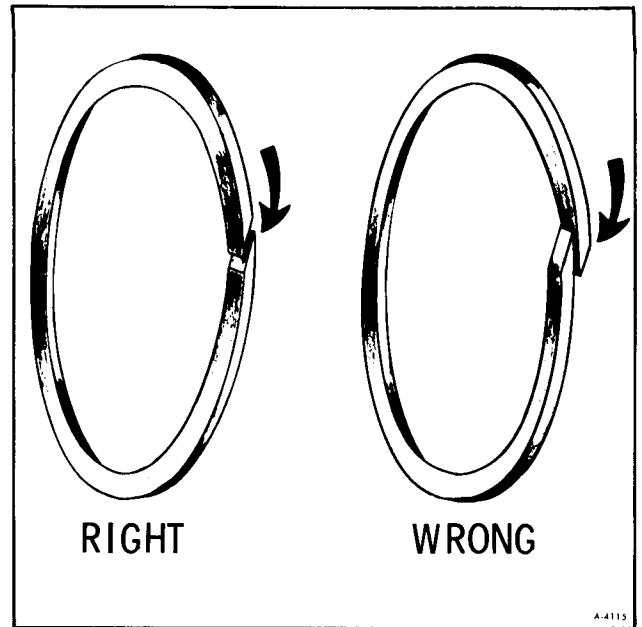

Figure 41—Installing Teflon Oil Seal Rings
**NOTE:** If teflon rings are being used, make sure slit ends are assembled in same relation as cut, see Figure 41. Also, make sure oil seal rings are seated in ring grooves to prevent damage to rings during reassembly of mating parts over rings.